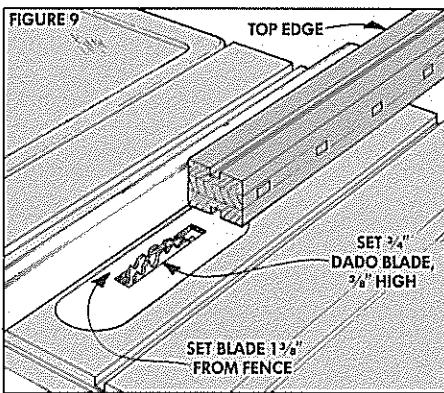

FIGURE 10
**KEY GROOVES.** The key rail (C) and apron (D) for the front of the bench are mounted to the fixed dog block with the aid of two keys. I cut 1/4"-wide grooves in these pieces and inserted alignment keys (E) in the grooves, see Fig. 10. (These same grooves also act as guides for the keys that hold in the sliding dog block.)
**KEYS.** After the grooves are cut, cut two fixed keys (E) to fit the grooves and to length to match the length of the fixed dog block (46" long).
Now glue the key rail (C) to the back of the fixed dog block with one of the keys between the pieces, see Fig. 10. (The other key and front apron are added later.)